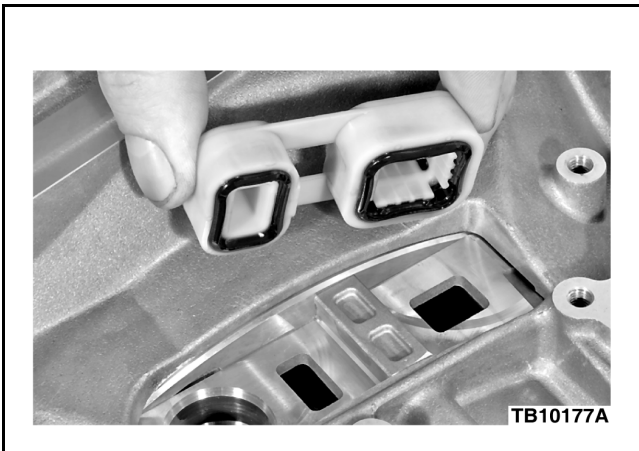

Figure 2 - Article 12-11-14
12. Remove the front pump adapter seal. (Figure 2)